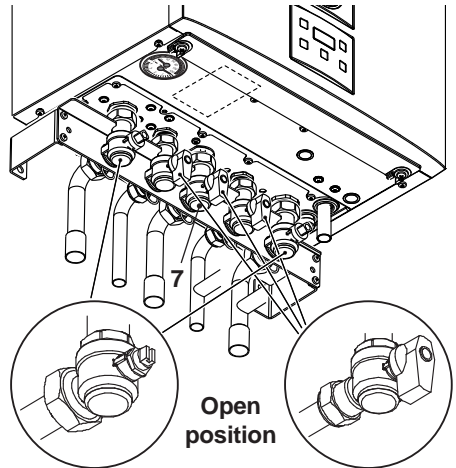

Fig. 7.1
- Open the gas cock 7 (Fig. 7.1) on the appliance and check the gas connector on
- Open the valves located in the lower part of the boiler (Fig. 7.1).